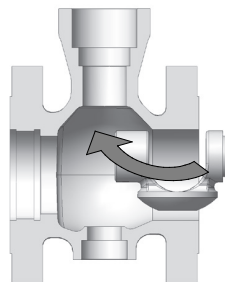

Figure 4b: Plug installation
- 13.15 Insert the plug in the body as shown in Figure 4b.
- ▲ NOTE:** The end post bearing (item 84) is pressed into the plug.